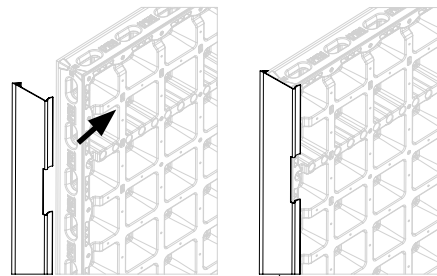
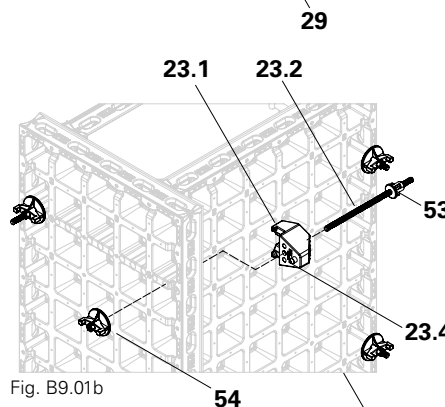

Fig. B9.01a
Fig. B9.01b
1. Attach a DUO 135 chamfer strip (29) to both DP 135 x 90 panels. (Fig. B9.01a)
2. Disassemble the DUO corner connector (23), screw the cam nut (53) onto the corner tie.
5. Insert the steel pin (23.4) of the DUO 62 corner connector (23.1) into the appropriate tie point of the multi panel. (Fig. B9.01b)